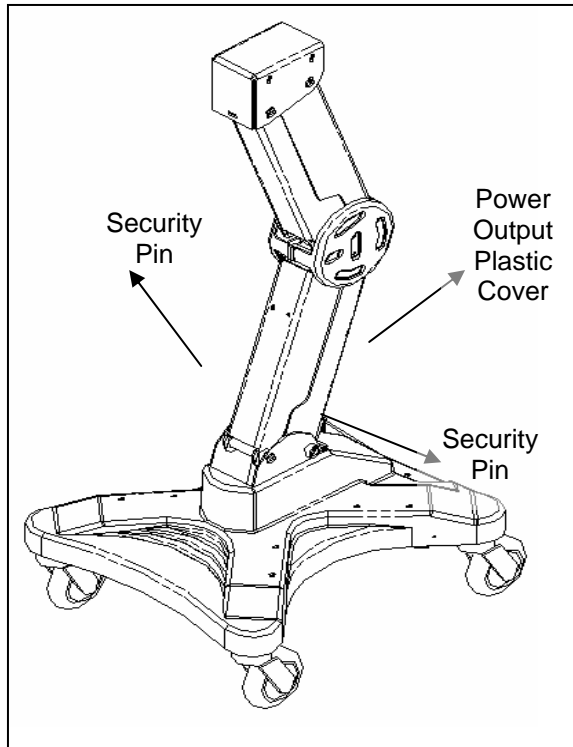

Fig 1: Location of plastic cover and pins
- 5 Locate the power output plastic cover on the back side of the base. Remove the power output plastic cover and slide the power system unit into base of the cart. Secure the power system unit with the two security pins located on both sides of the base (Fig 1):